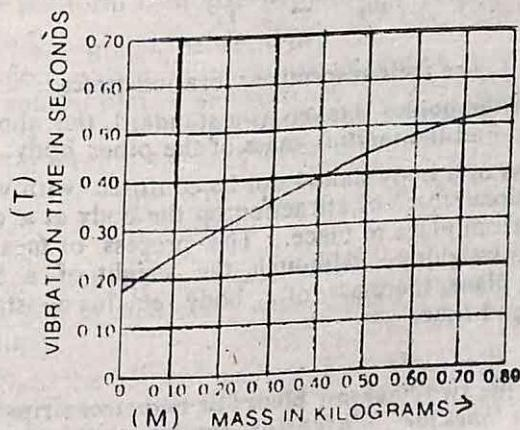

Fig. 4.3.
5. Plot a graph between the total mass ( $m$ ) of the platform and the object placed on it and its vibration time ( $T$ ). Fig. 4.3 shows a graphical plot of one such set of observations. The graph in Fig. 4.3 is not a straight line. But by careful analysis of the data, the relationship can be expressed by the following equation :
6. Place the body of unknown mass ( $M$ ) on the platform. Let the platform oscillate horizontally as before. Measure the time period  $T'$ . For this value of  $T'$ , find out the total mass  $m'$  from  $m$  versus  $T$  graph as shown in Fig. 4.3.